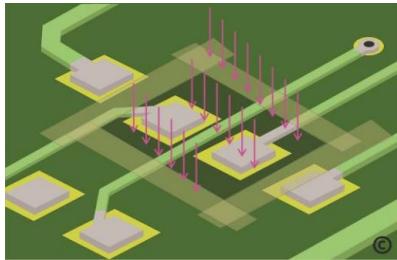

Fig 8.11
3. using the replacement UV-curable solder mask material apply this to the areas requiring repair. If desired, add color agent to the mixed epoxy to match the circuit board color (**Fig 8.11**)